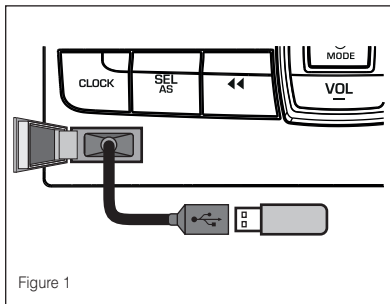

Figure 1
- Open the USB door ① and plug in USB cable extension with USB memory into USB port (as shown in Figure 1). The system will automatically switch to USB mode and play MP3/WMA track.